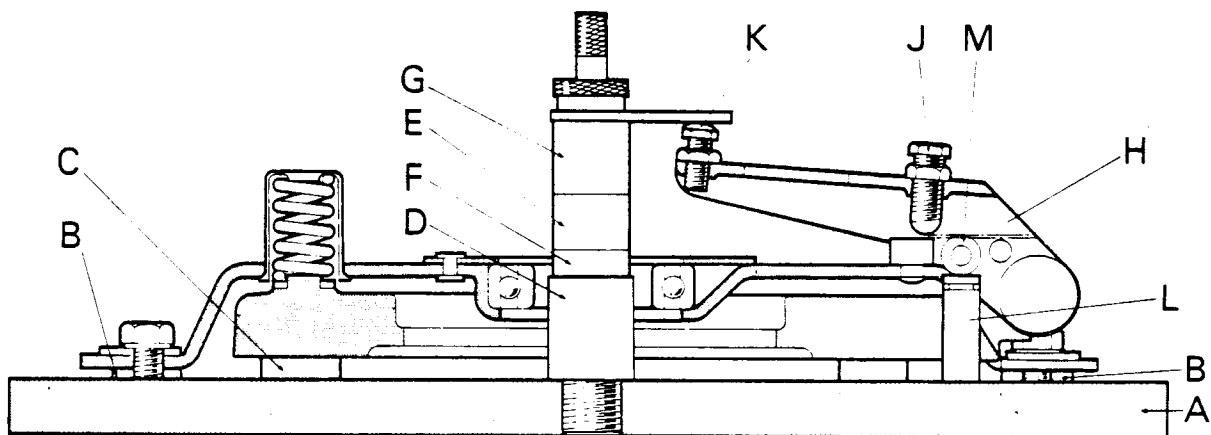

Figure 16. SETTING RELEASE LEVER HEIGHT — LAYCOCK
As the clutch pedal is depressed the release levers (Fig. 16) pivot first about the fulcrum rollers and then, when the adjusting screw contacts the cover thrust button, on the outer cover. When release lever is pivoting on fulcrum roller the pressure plate is drawn rearwards to release the transmission plate but the pressure of the thrust springs is transferred to the three plungers, which are pressed against the separator plate and therefore hold the power take-off driven plate firmly in engagement. Pressing the release levers so far that they pivot on the cover thrust button withdraws pressure plate and also releases the three plungers, so that the three springs in flywheel push the separator plate away from flywheel and release the power take-off plate. Both clutches are therefore disengaged when pedal is fully depressed but only the transmission clutch is disengaged if pedal is not depressed past the point where the adjusting screw contacts cover thrust button.
8. Set release levers with adjuster screws K, Fig. 16, to finger height. The height of adjuster screws must be alike. Operate clutch again with actuator lever and recheck height. The release levers should be held down firmly by hand so that roller is in contact with plunger.